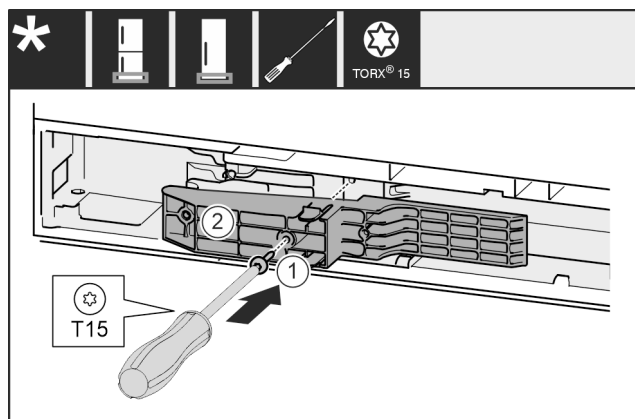

Fig. 67 *
- ▶ 将把手侧的适配件 Fig. 67 (1) 插入凹槽。*
- ▶ 将螺钉 Fig. 67 (2) 用螺丝刀拧紧。*